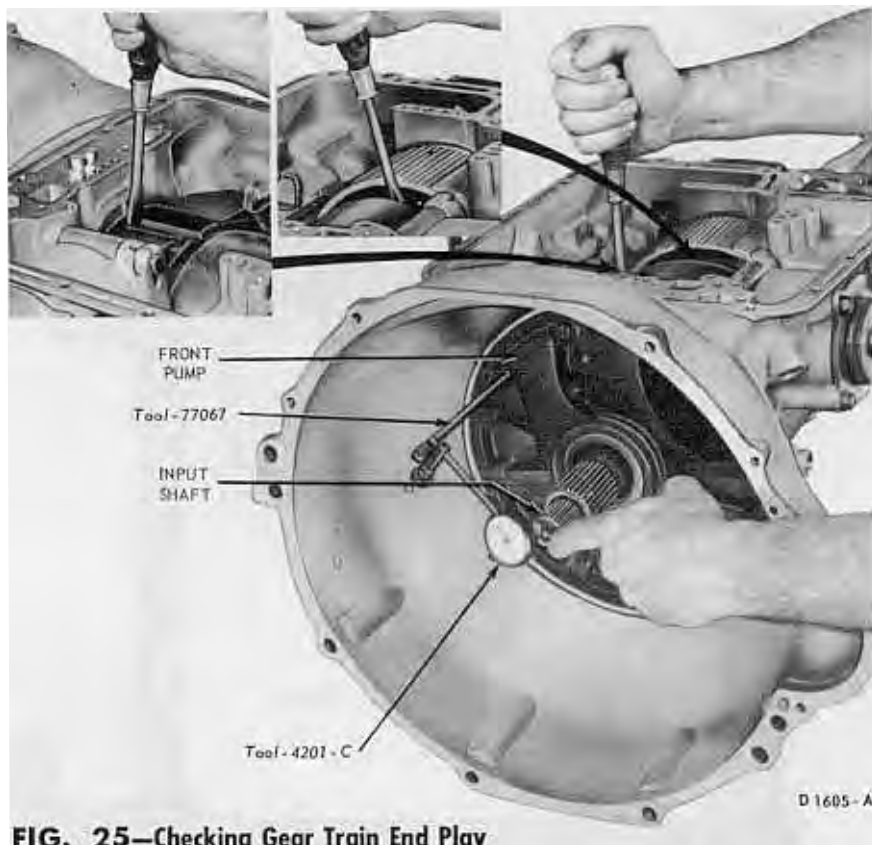

FIG. 25—Checking Gear Train End Play
4. Attach a dial indicator to the front pump as shown in Fig. 25. Install tool T61L-7657-B in the extension housing to center the shaft.
5. Pry the gear train to the rear of the case and at the same time, press the input shaft inward until it bottoms (Fig. 25). Set the dial indicator to read zero.
6. Pry the gear train forward (Fig. 25) and note the amount of gear train end play, on the dial indicator. Record the end play to facilitate assembling the transmission. Remove the dial indicator from the pump and the tool from the extension housing.